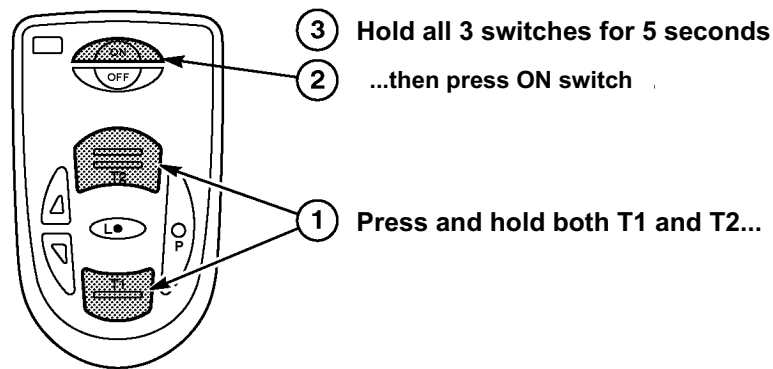

Figure 20.
- While pressing and holding *both* the T1 and T2 switches on the headset, turn the headset ON. Hold all three switches for at least 5 seconds. See Figure 20.